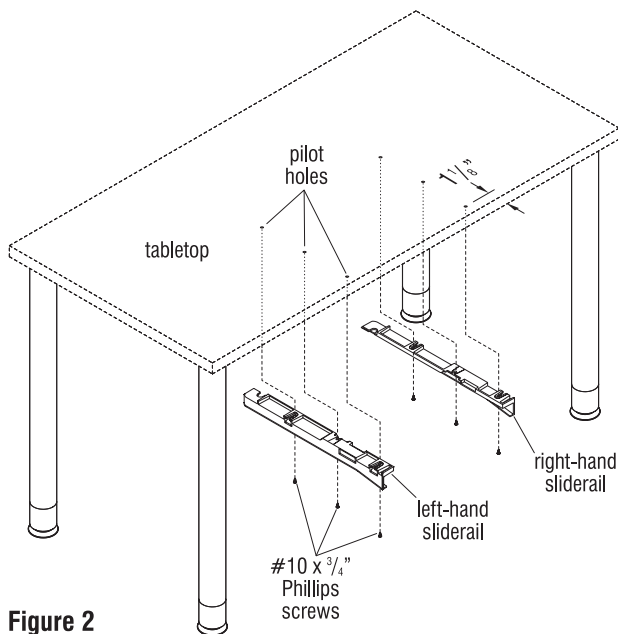

Figure 2
5. Position the left-hand slide rail under the tabletop. Center the left-hand slide rail's mounting slots over its pilot holes, then secure using three $\#10 \times \frac{3}{4}$ " Phillips screws. Perform the same process for the right-hand slide rail and secure using three $\#10 \times \frac{3}{4}$ " Phillips screws. Do not over-tighten screws. (Figure 2).